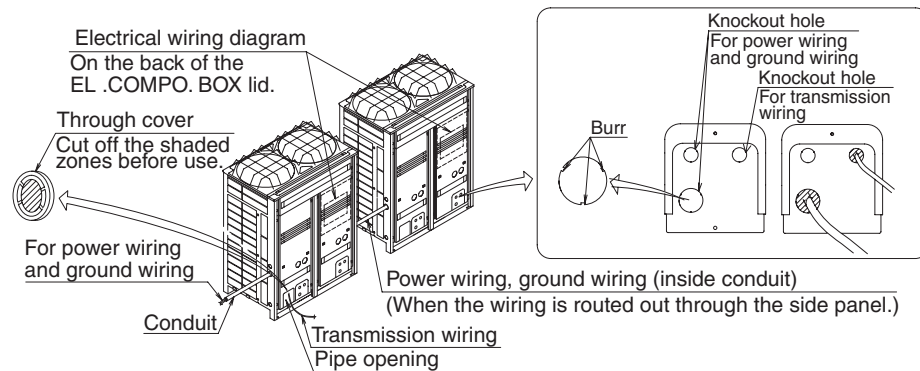

figure 20
- When passing wiring through the knock holes, remove burrs around the knock holes and protect the wiring with protective tape. **(Refer to figure 20)**
- If small animals might enter the unit, block off any gaps (hatching parts in figure 20) with material (field supply).